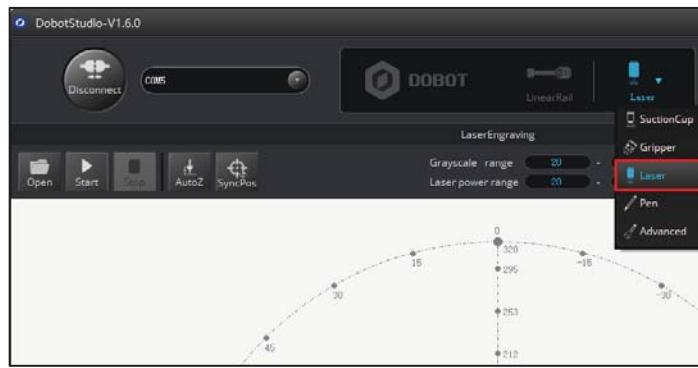

Figure 5.93 Choose Laser as the end-effector
**Step 1** Choose **Laser** as the end-effector on the **LaserEngraving** page, as shown in Figure 5.93.